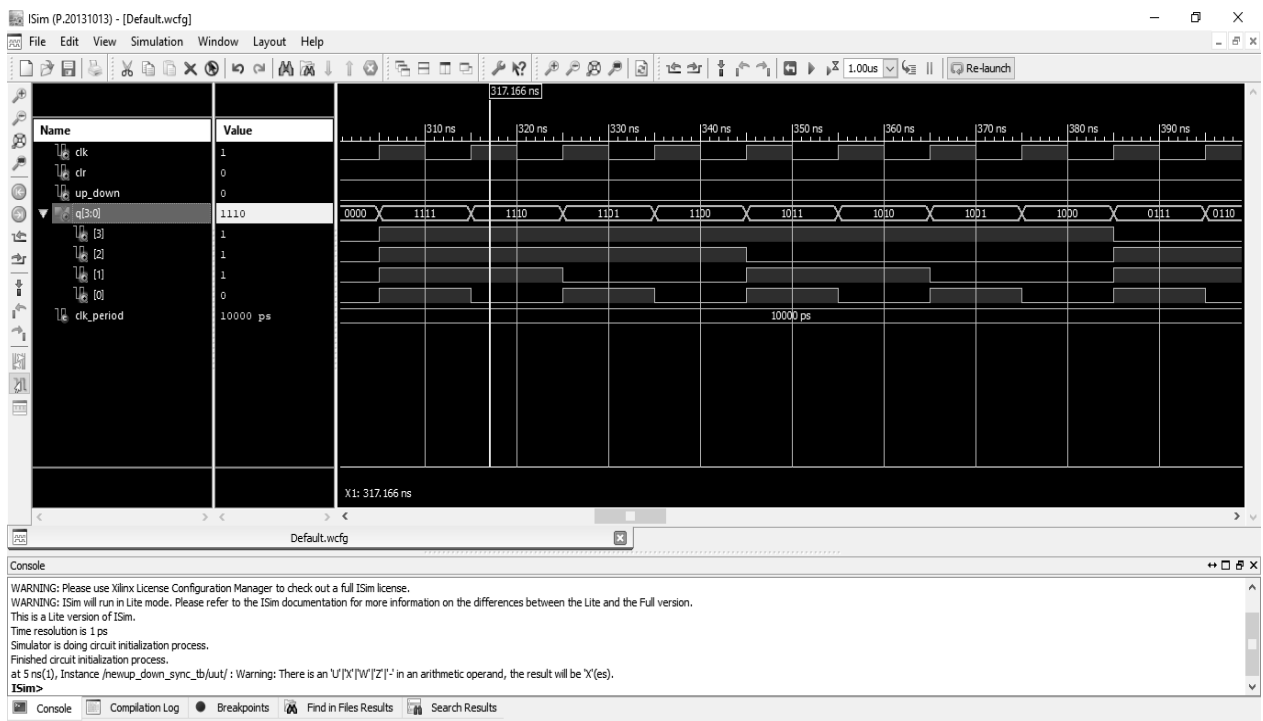

Fig. no..13.5: Simulation output
10. ISim simulator window will open with simulation executed, as shown in Ref Fig no.13.5. where able to simulate designs and check for errors.